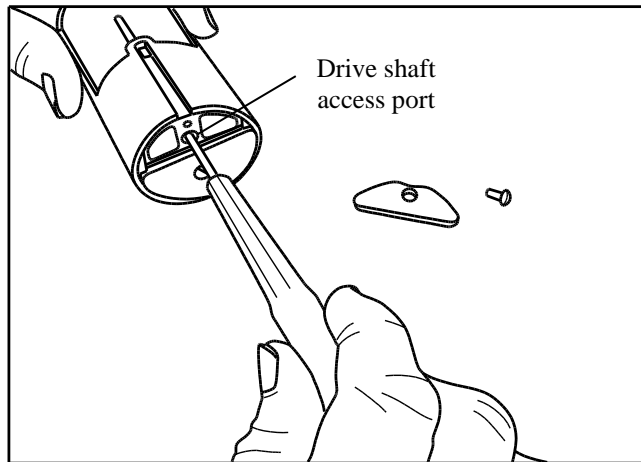
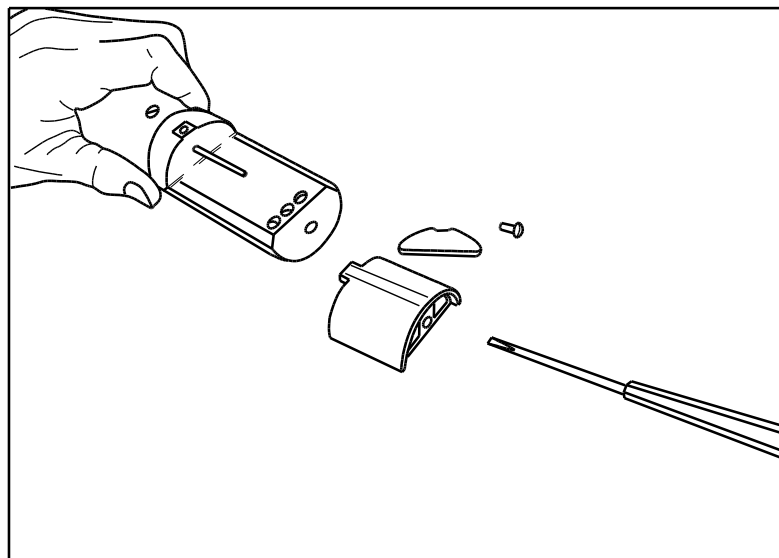

Figure 8-7. Insert screwdriver and rotate clockwise
Figure 8-8. Shutter disassembled
3. Insert a slot screw driver (2.5 mm (0.1 in.) wide blade) into the access port (Figure 8-7).
4. Engage the end of the drive shaft and then rotate clockwise until the shutter is free (Figure 8-7 and Figure 8-8).